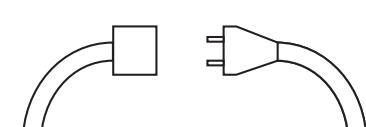

Fig. 1
- Connect the power cord plug to the extension cord (Fig. 1).
- Disconnect the power cord plug from the extension cord (Fig. 1).